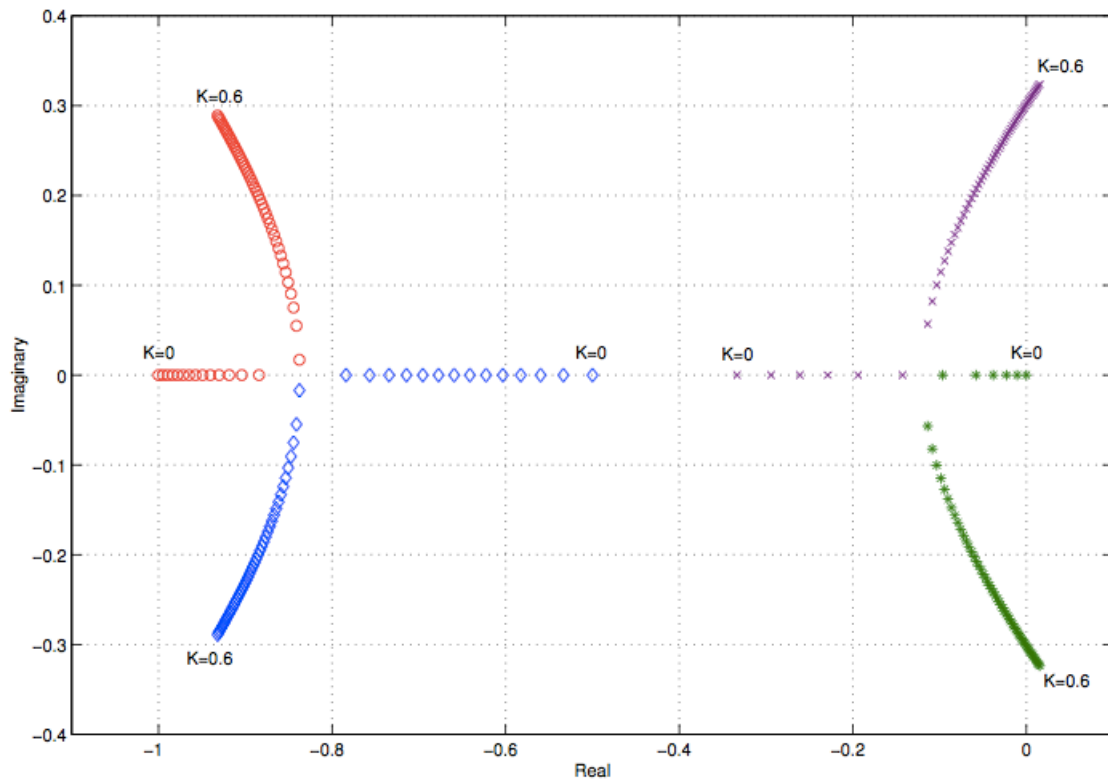

Figure 4: Root locus of Engine position system. Location of system poles when K is varied from 0 to 0.6 in steps of 0.01.
- Figure 4 shows the location of the poles of the closed-loop system (closed-loop poles) when $K = 0, 0.01, 0.02, \dots, 0.6$ (The four poles for each value of K are marked by \times , $*$, \circ and \diamond). The poles of the closed-loop system for selected values of K is also tabulated in Table 1. Using the data, or otherwise,